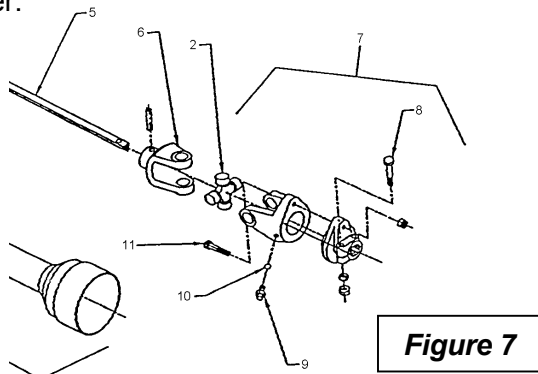

Figure 7
1. Replace the driveline shear bolt (fig. 7, item 11) with a M12 x 65 bolt gr. 10.9 (662296) for 8-Series and a M12 x 65 bolt gr. 8.8 (664570) for 9-Series, available at your local dealer.